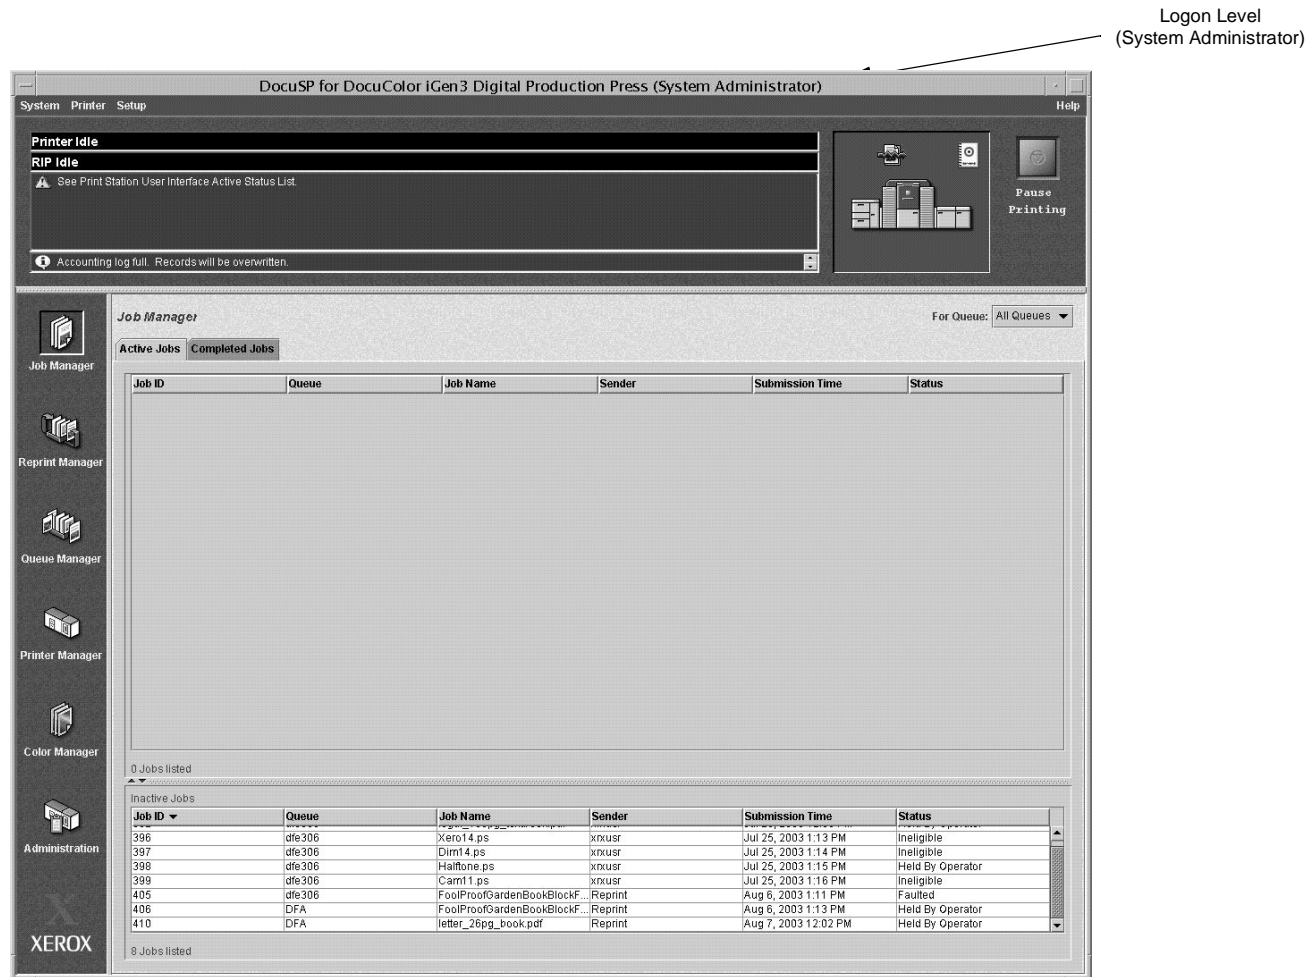
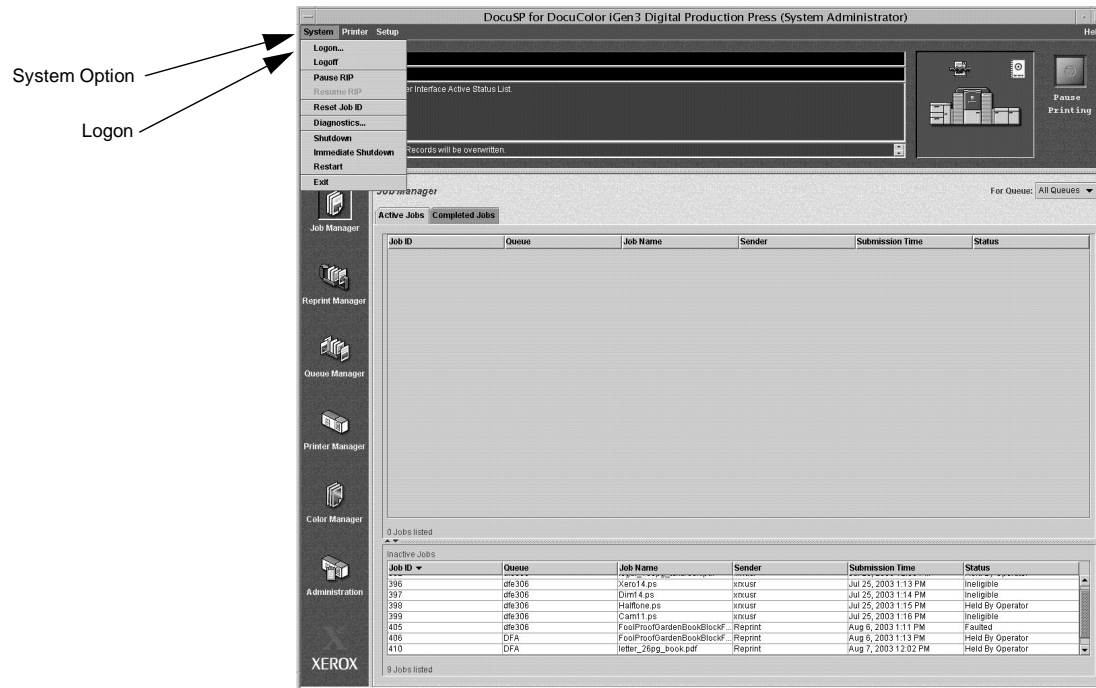

Figure 6-30 DocuSP Main Window Logon Level
Figure 6-31 The System Option Menu
1. Check the **Logon** level at the top of the **DocuSP Main Window**, as shown in the Figure 6-30. If you are already logged on as **System Administrator**, go to the **Profile Setup Procedure**. If not, Log on as **System Administrator**, as described below.
- Go to the **DocuSP Main Window** and click **System**, as shown in Figure 6-30. This will bring up a drop down list, as shown in Figure 6-31.